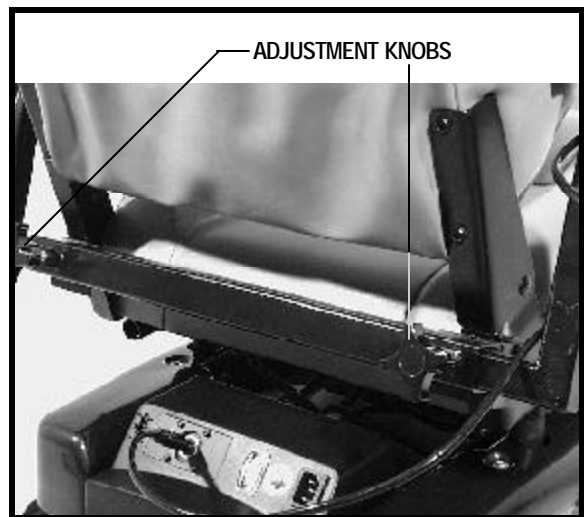

Figure 20. Armrest Width Adjustment
1. Locate the two knobs on the armrest receiver bracket. See figure 20.